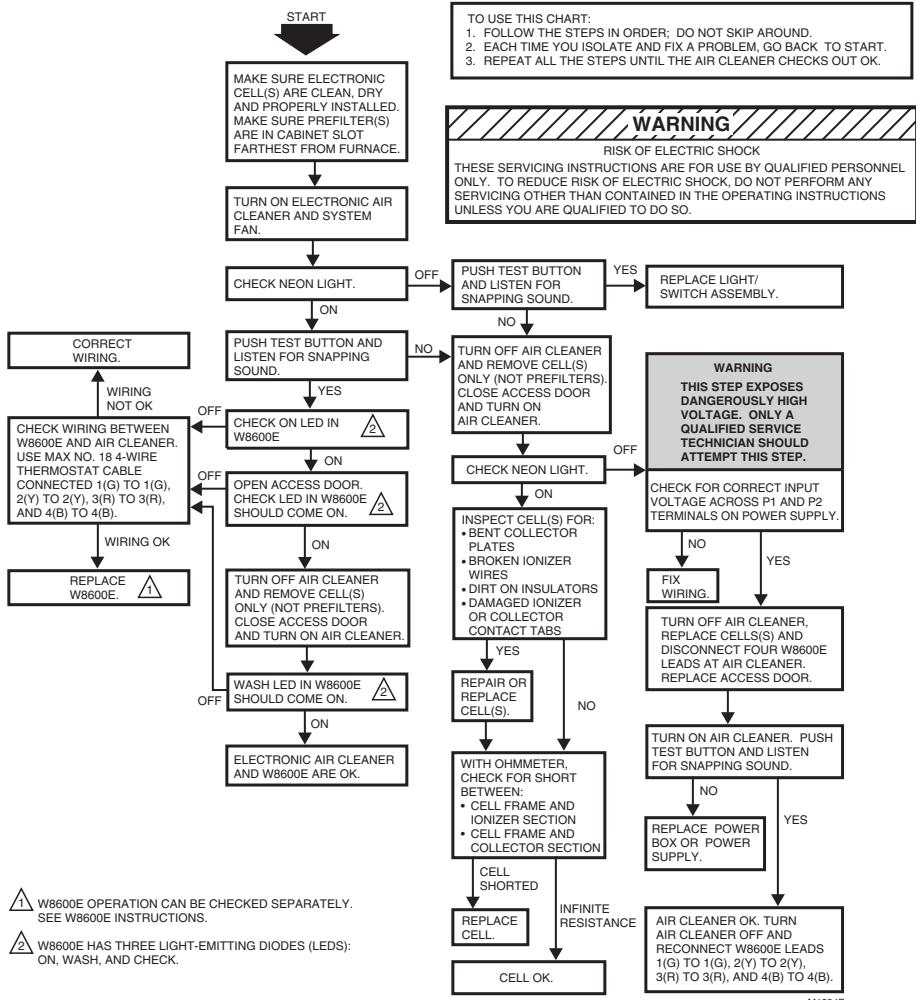
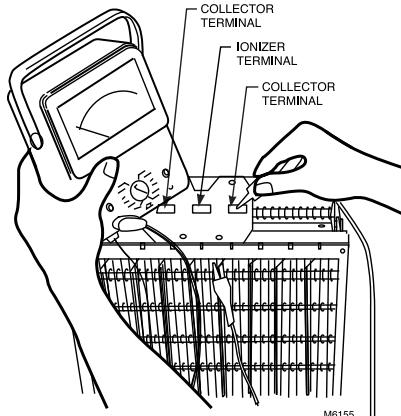

Fig. 21. Troubleshooting air cleaners with solid-state performance indicator.
Fig. 23. Use ohmmeter to check electronic cells for short circuits.
- Test meter with 15 kVdc probe or equivalent. The electronic air cleaner troubleshooting charts, Fig. 21 and 22, show how to quickly isolate a problem in the air cleaner. Although a meter is needed for some steps, see Fig. 23, the primary diagnostic tools are the neon light and the test button.